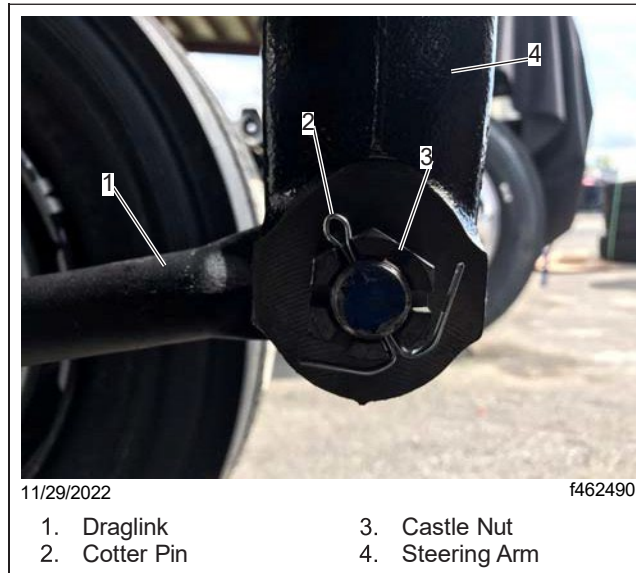

Fig. 5, Cotter Pin Removal
2. Remove the cotter pin from the castle nut at the steering arm-to-draglink connection. See Fig. 5.
29. If the cotter pin hole is not accessible, advance the castle nut to the nearest slot, and install the cotter pin. Bend the split side of cotter pin around the nut as shown in Fig. 5.